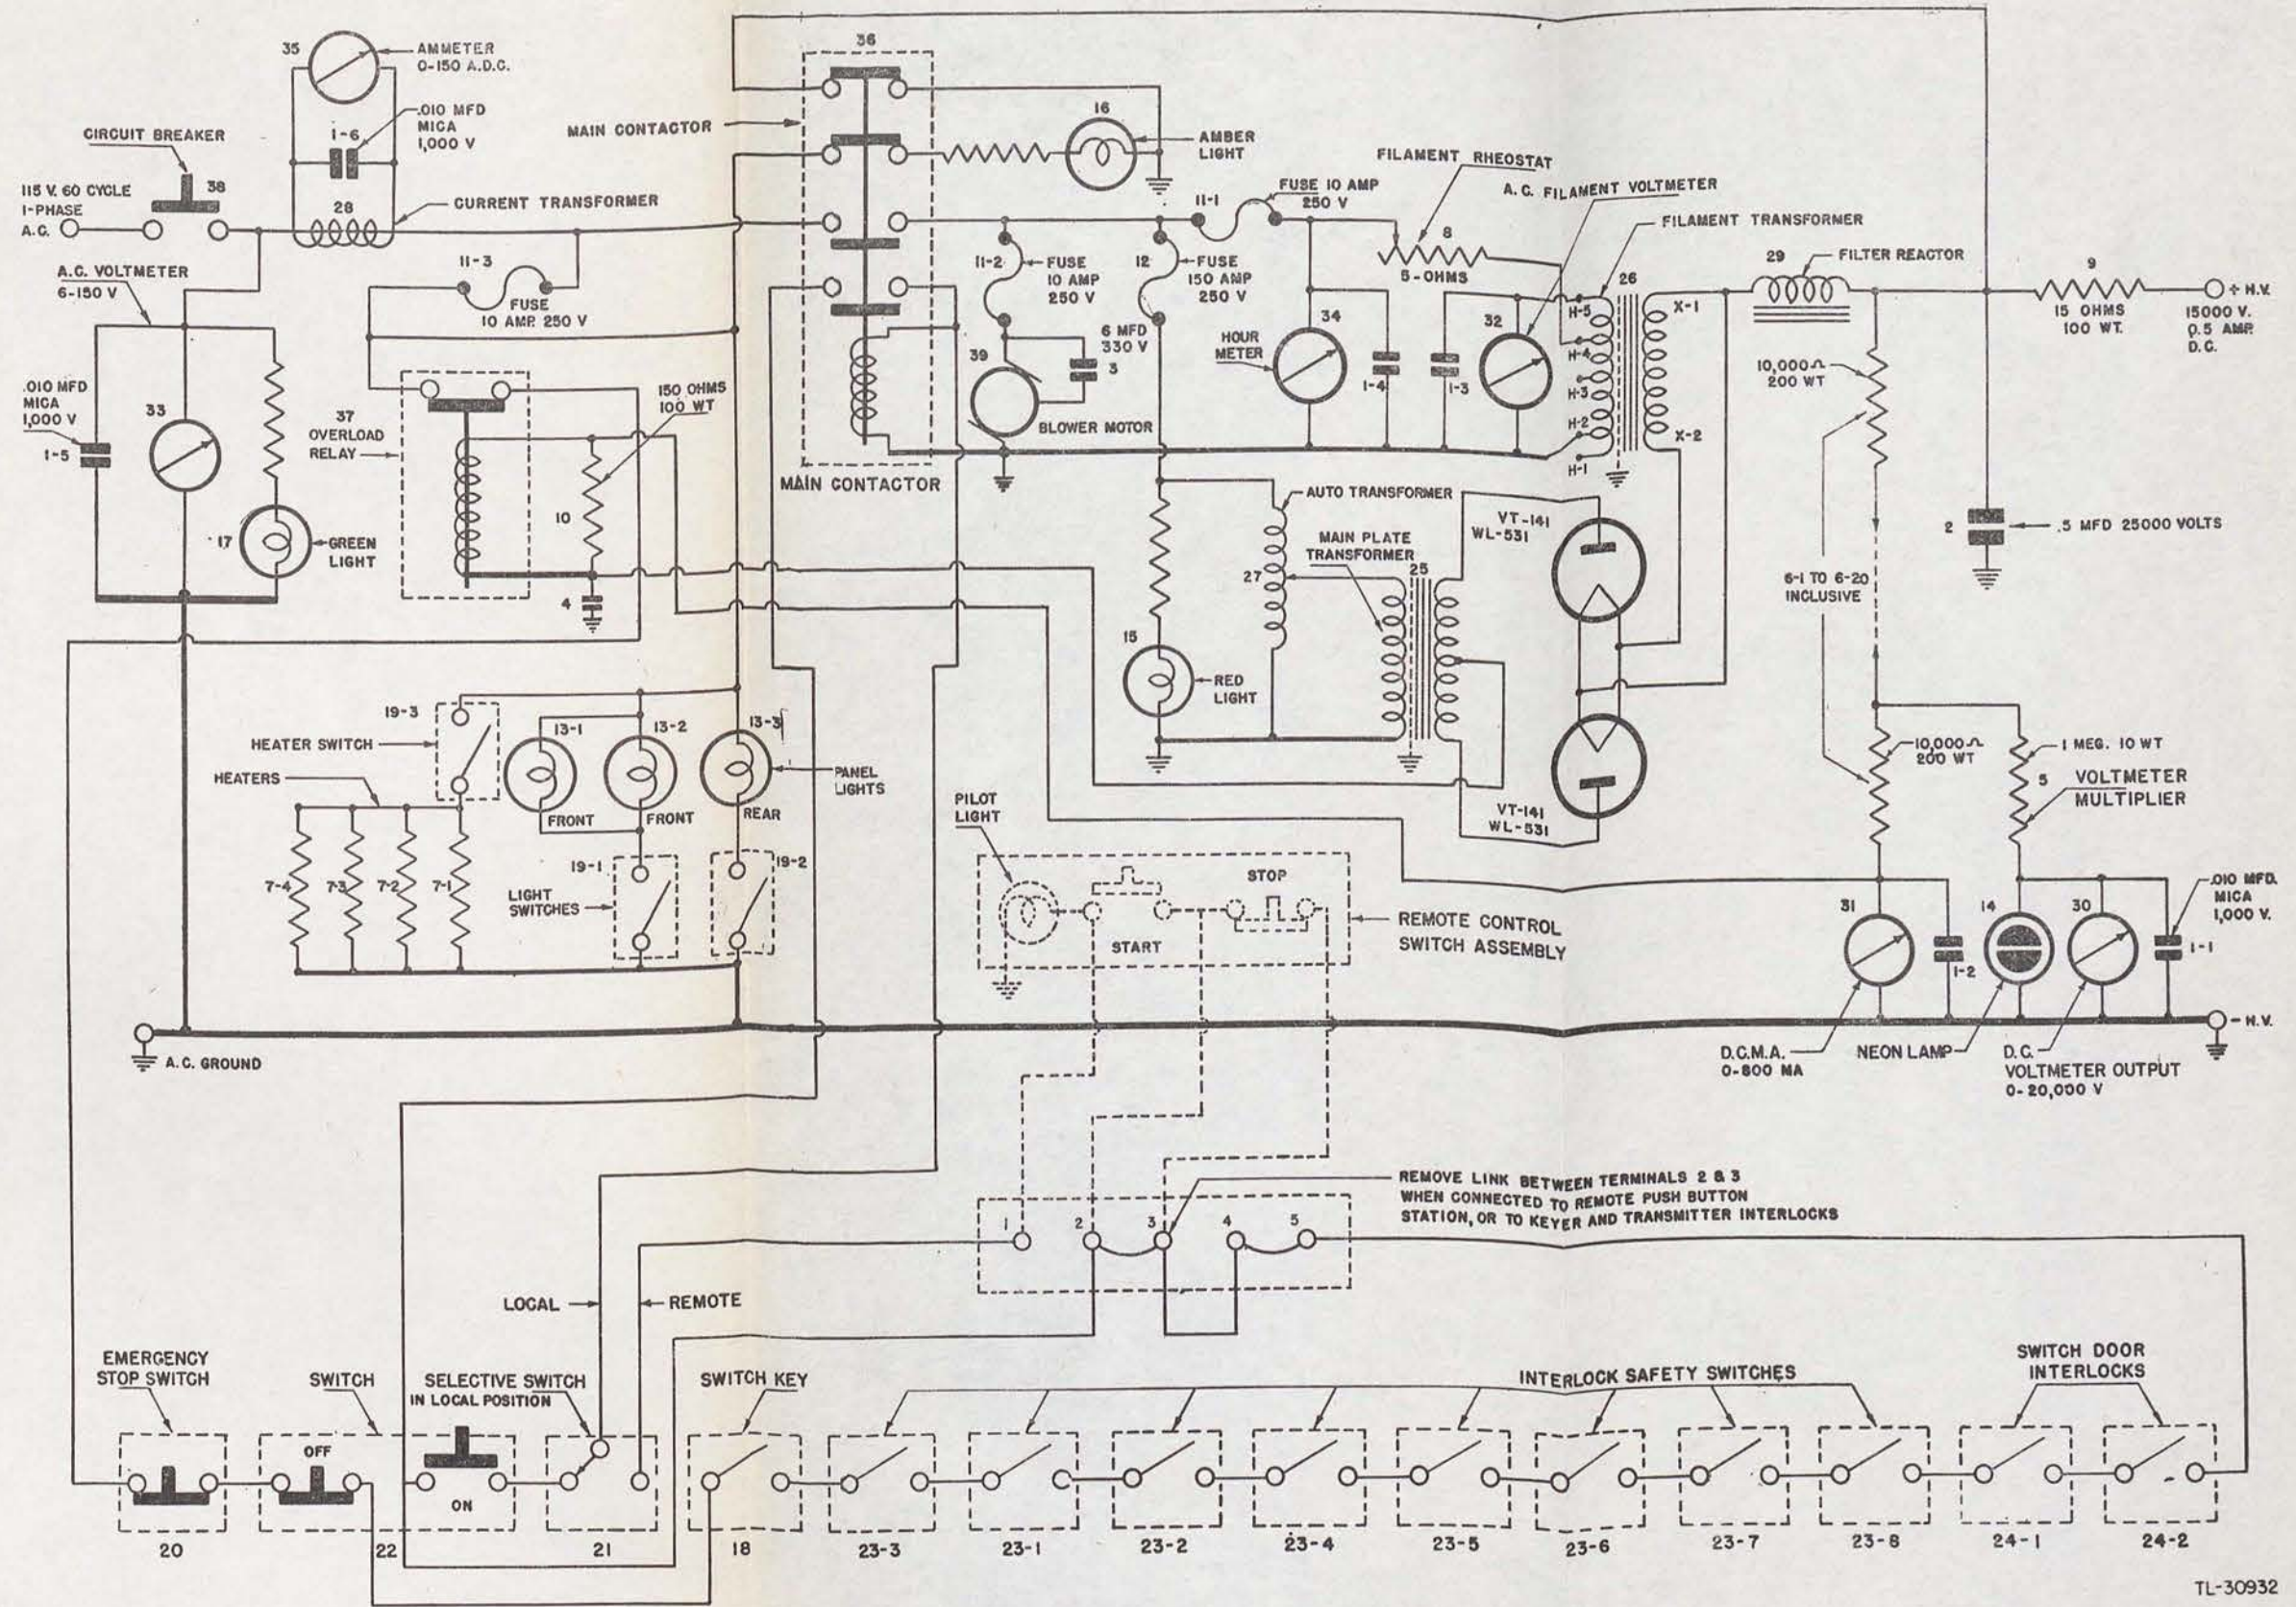

Figure 40. Rectifier RA-60-A, schematic.
69. Rectifier, Front Panel Lamps 13 (1-2) (fig. 40)
b. PROBABLE CAUSES. (1) Defective lamp bulb.